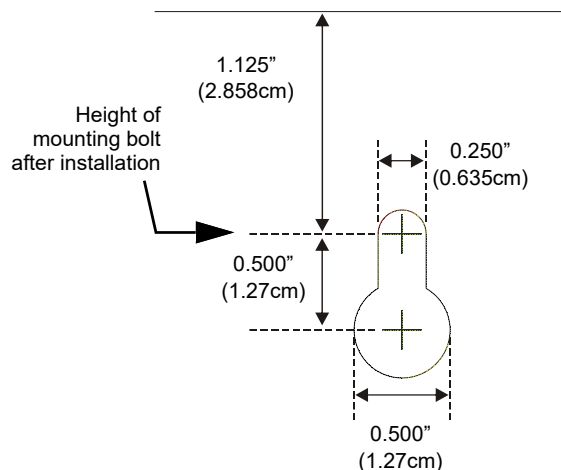

Figure 2.1 Keyhole Dimensions
1. Mark and pre-drill hole in the wall for the center top keyhole mounting bolt using the dimensions illustrated in Figure 2.1.